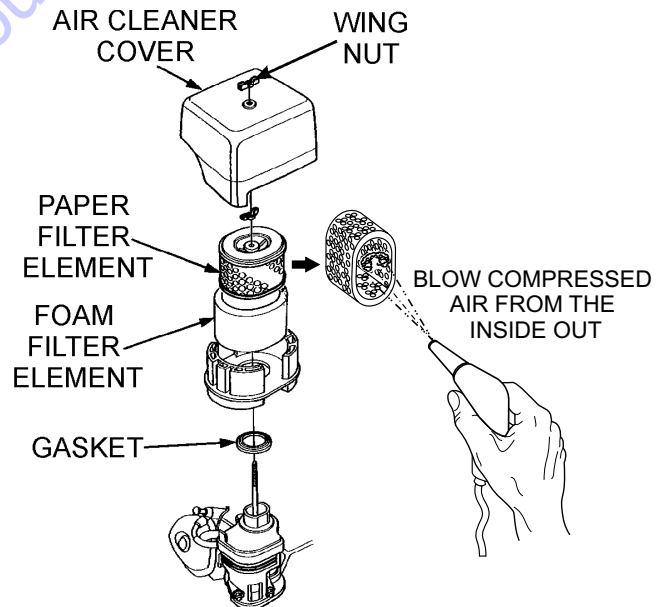

Figure 22. Engine Air Cleaner
1. Remove the air cleaner cover and foam filter element as shown in Figure 22.
2. Tap the paper filter element (See Figure 22) several times on a hard surface to remove dirt, or blow compressed air [not exceeding 30 psi (207 kPa, 2.1 kg/cm²)] through the filter element from the air cleaner case side. **NEVER** brush off dirt. Brushing will force dirt into the fibers. Replace the paper filter element if it is excessively dirty.